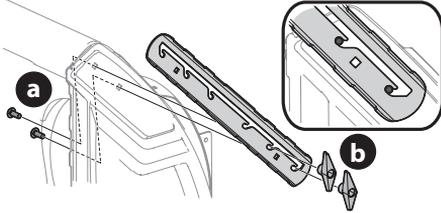

Figure 48
1. Loosen the two carriage bolts (a) and wing nuts (b) that secure each drift cutter to the sides of auger housing (Figure 48).